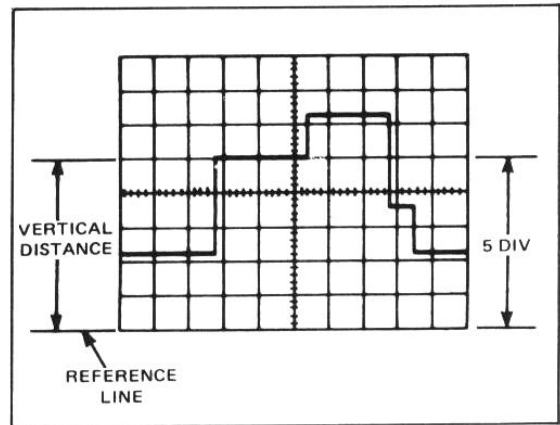

Figure 2-15.
2. Adjust the applicable TIME/DIV switch (24) or (25) for one complete cycle of waveform and set the VOLTS/DIV switch for a trace amplitude of 4 to 6 divisions (see Figure 2-15).
VOLTS/DIV setting. In the example used for Figure 2-15, the voltage for a 0.5 V/div scale is 2.5 V (5.0 div X 0.5 V).